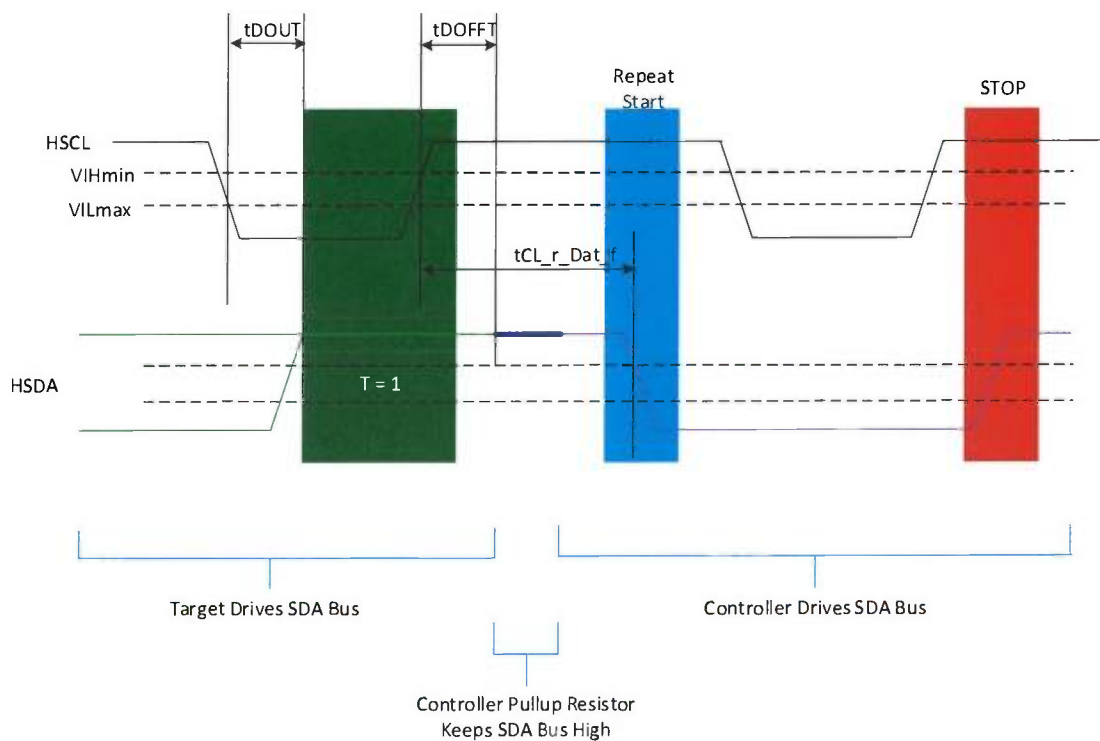

Figure 23 — T=1; Controller Ends Read with Repeated START and STOP Waveform
- NOTE 7 See Figure 23 to see how Host ends target device operation.
NOTE 2 See Figure 23 to see how Host ends target device operation.
NOTE 4 See Figure 23 to see how Host ends target device operation.